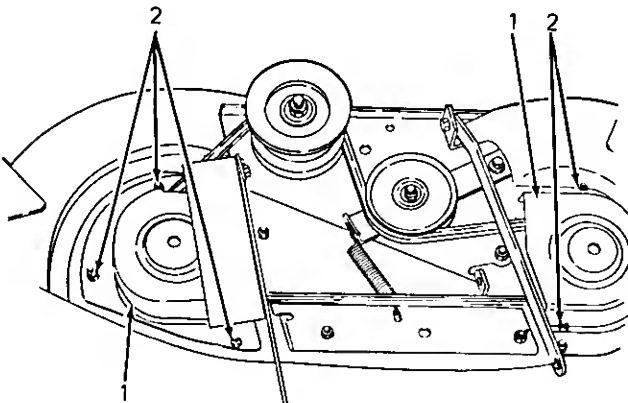

Figure 41.
Replace spindle drive belt as follows: (See Figures 41, 42 and 43.)
- 5. Install a new belt. Refer to Figures 41, 42 and 43 for proper placement of belt. Push against idler pulley to aid the installation.